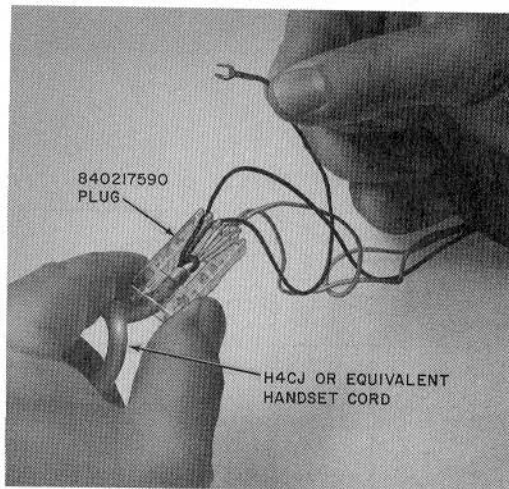

Fig. 4—Installation of Spade-Tipped Handset Cord Leads
3.08 Installing Spade-Tipped Handset Cords in Early Production Sets Equipped with G12A Handset: To install spade-tipped handset cord (H4CJ or equivalent) remove J Hook Stayband from the cord. Cut back and remove cord sheath to stayband marks. Thread spade-tipped conductors through plug (Fig. 4) (spade tips must be bent to clear cord entrance). Pull cord until about 1/4-inch of cord sheath is in the central
Note: On later version of the telephone set base, a plug (Fig. 4) is not required and a notch is provided on front lip of base pan for J Hook Stayband of nonmodular type cords.